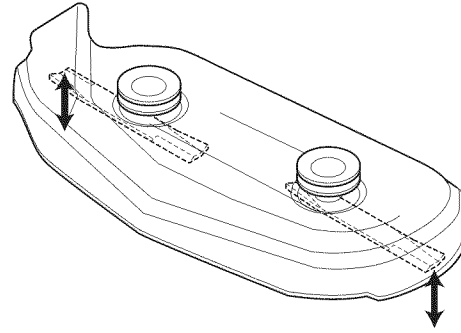

Figure 37. Orient Blades Side-to-Side
4. Set the cutting height to mid position. Arrange the mower blades so that they are pointing from side-to-side (see Figure 37).
5. Measure the distance between the tips of the outside blades and the ground (Figures 37 & 38). If there is more than 1/8" (3 mm) difference between the measurements on each side, proceed to step 6. If the difference is 1/8" (3 mm) or less, proceed to Front To Back Leveling.